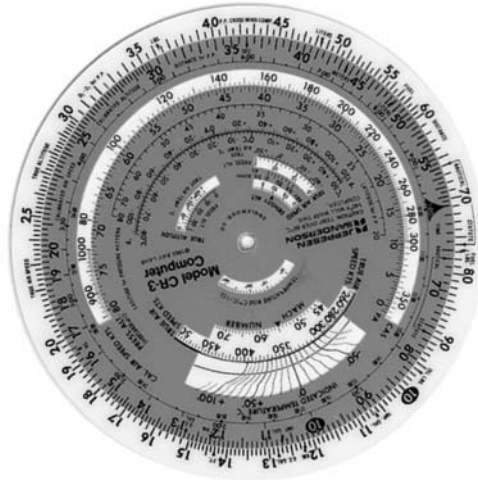

Figure 4.3-32 Fuel Conversion 5
2. Find 42.4 (425 Kts) on the DISTANCE (outer) scale and place it over 36 (3600 seconds) on the TIME (inner) scale. (Figure 4.3-32)